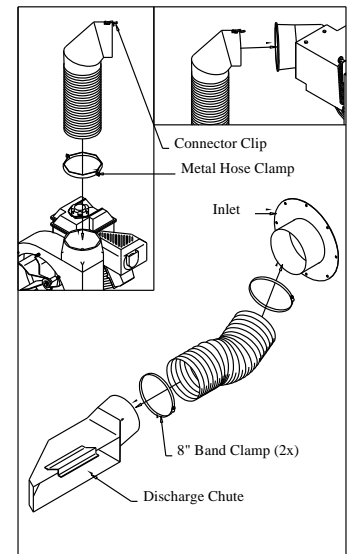

Fig. 9
9. Slip metal hose clamp (33) up onto bottom of exhaust hose (35) and slip both down over exhaust neck on blower housing. Slip other end of exhaust hose (35) into exhaust boot (15) bolted into molded top assembly. Once achieved tighten bolts in metal hose clamp securing exhaust hose to the blower housing, if installed properly the connector clip (54) on the top of the exhaust hose should not have to be clipped to hold the hose into the exhaust boot on molded top unless unit is running (pressurized). Attach discharge chute to tractor, slip intake hose (10) over inlet and secure with 8" band clamp (9). Cut hose to fit to discharge chute, slip onto neck on discharge chute and secure with 8" band clamp. See Fig. 9